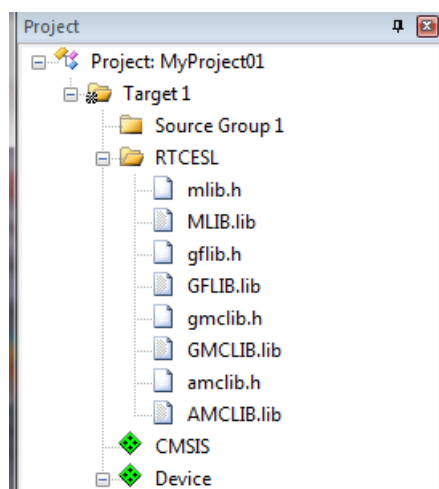

Figure 1-25. Project workspace
14. Now, all necessary files are in the project tree; see Figure 1-25. Click Close.